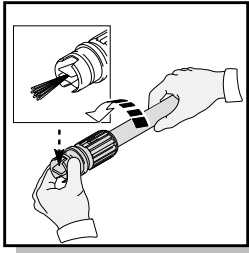

Fig. 20
- Take off the adjustable lance. Rotate the nozzle on the adjustable lance to the narrow stream setting which opens up the fan blades (Fig. 20).